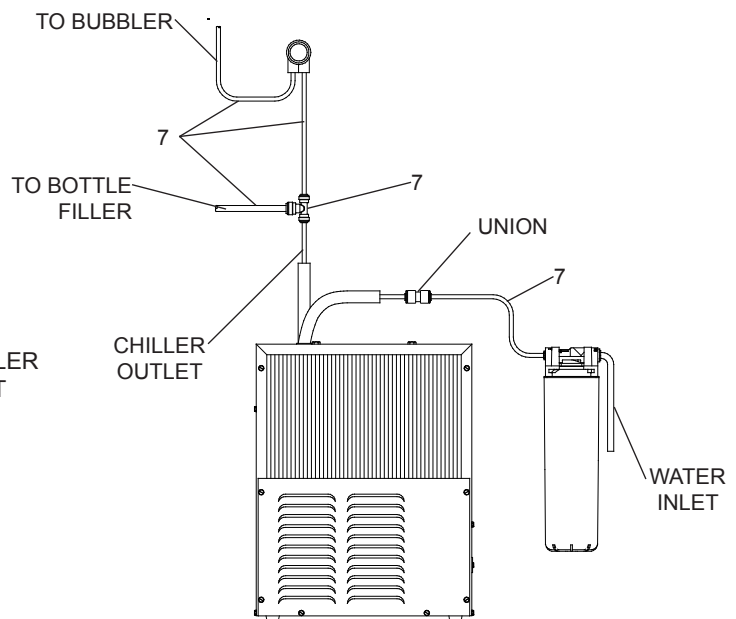

**Figure 4 – LZWS-ERFP8-RF Filter Mounting**
4. (For LZWS-ERFP8-RF) If an existing filter is not present install filter bracket on chiller (Fig 4), then install the filter head the bracket, plumb from the filter outlet to the chiller inlet with  $\frac{1}{4}$  poly tubing and  $\frac{1}{4} \times \frac{1}{4}$  union, install filter .